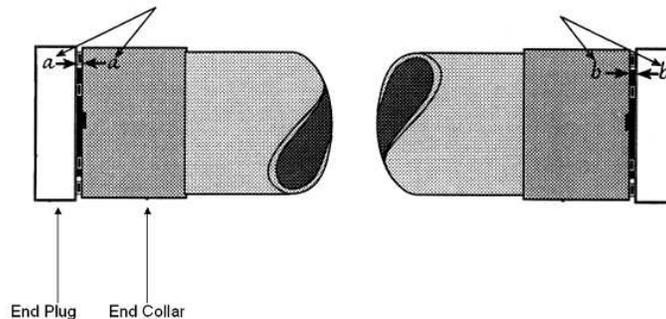

Figure 6.2 - Membrane Corresponding Mark Placement.
Step 2: Remove the six fasteners and cap ring holding each end plug with an Allen wrench. Place a mark on each end plug to be removed, place a corresponding mark on each end collar. This will ensure proper orientation during assembly. Refer to Figure 6.2.